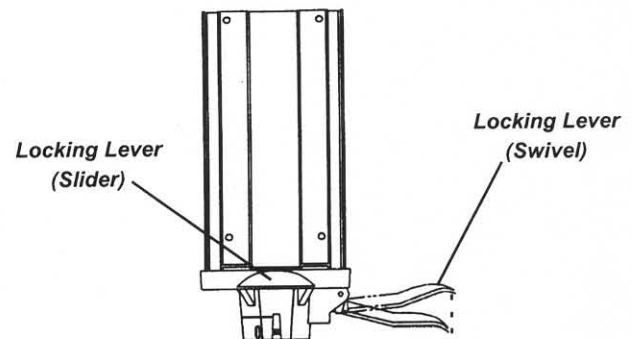

Figure K2: Bucket Slider Seat Base
2. Locate the black lever below and to the left of the seat and lift up. This action releases the locking pin and allows the seat to swivel. See Figure K2.